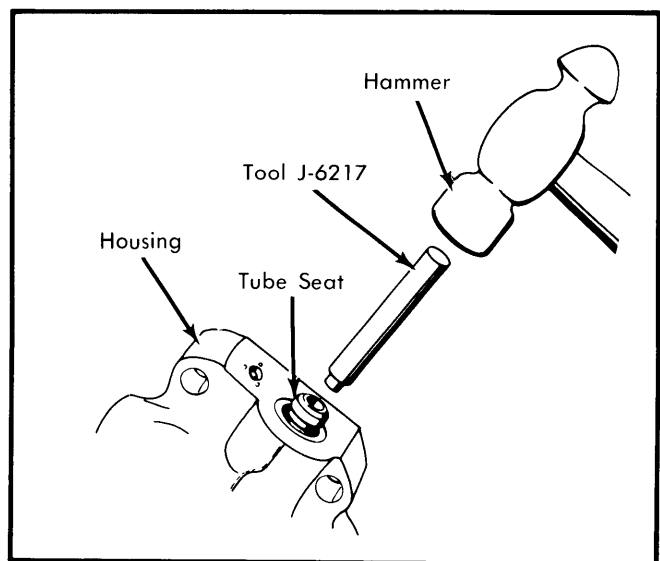

Fig. 6 Installing General Motors Tube Seats
2) On Chevrolet and GMC models, install tube seat as shown in Fig. 6. On Dodge and Plymouth models, position tube seats in booster ports and screw a spare tube nut into each port to seat tube seat. Remove spare nuts and ensure that ports are free from burrs or shavings.